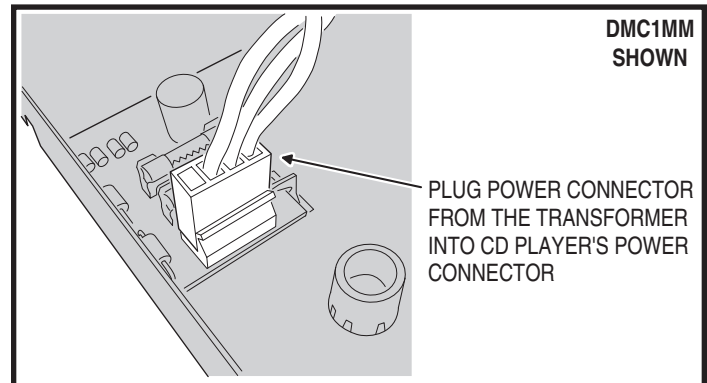

Figure 26. dmc1MM iPod® Dock MP3 & CD Player Power Connection
11. Plug the connector from the TE2D power transformer in the wall housing to the CD Player's POWER connector (see Figure 26 or 27).